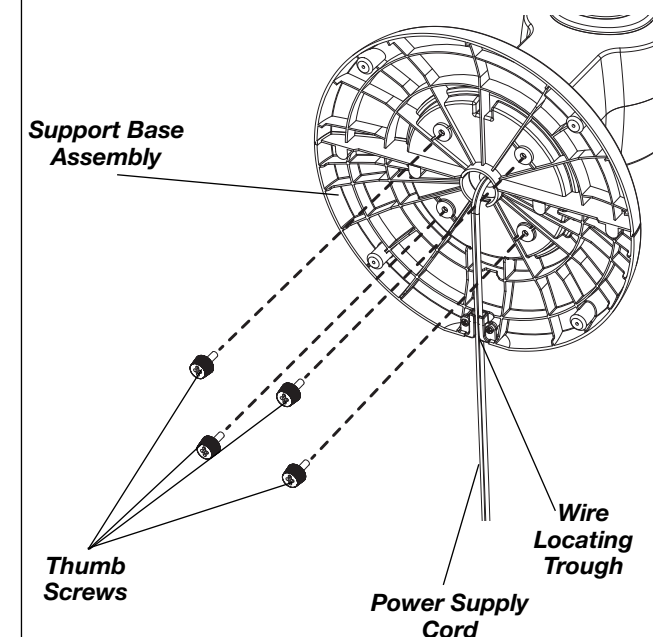

Figure 4
5. Secure the **Support Base Assembly** to the bottom of the Fan with (4) **thumb Screws**. Gently pull any excess slack of the **Power Supply Cord** and place it in the **Wire Locating Trough**. (*Figure 4*)